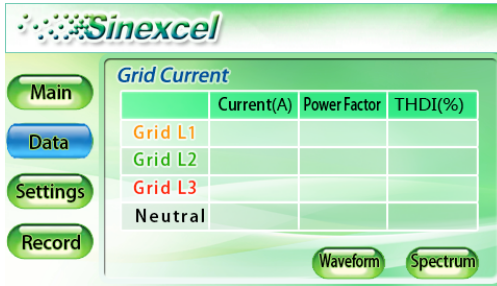
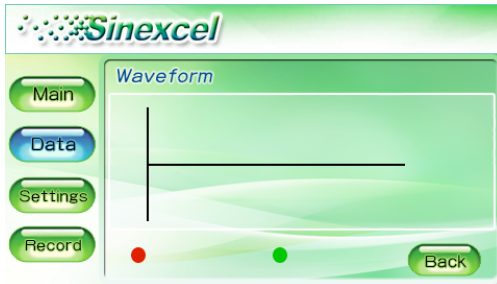

Figure 5-7 Information of grid current
Figure 5-8 Waveform of grid current
- ◆ Click “**Grid Current**” in Figure 5-6 to check the information of grid current, as shown in Figure 5-7;
- ◆ Click “**Waveform**” and “**Spectrum**” in Figure 5-7 to check the waveform and spectrum of grid current, as shown in Figure 5-8 and 5-9;